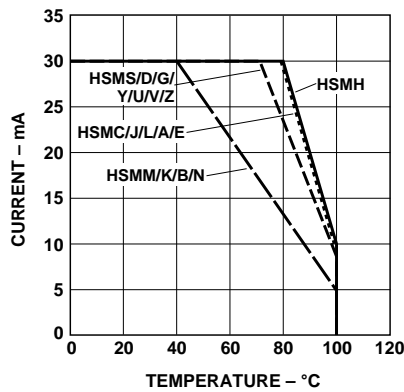

Figure 4. Maximum forward current vs. ambient temperature. Derated based on  $T_{JMAX} = 110^{\circ}C$ ,  $R_{\theta JA} = 500^{\circ}C/W$ .
- Derate linearly as shown in Figure 4.